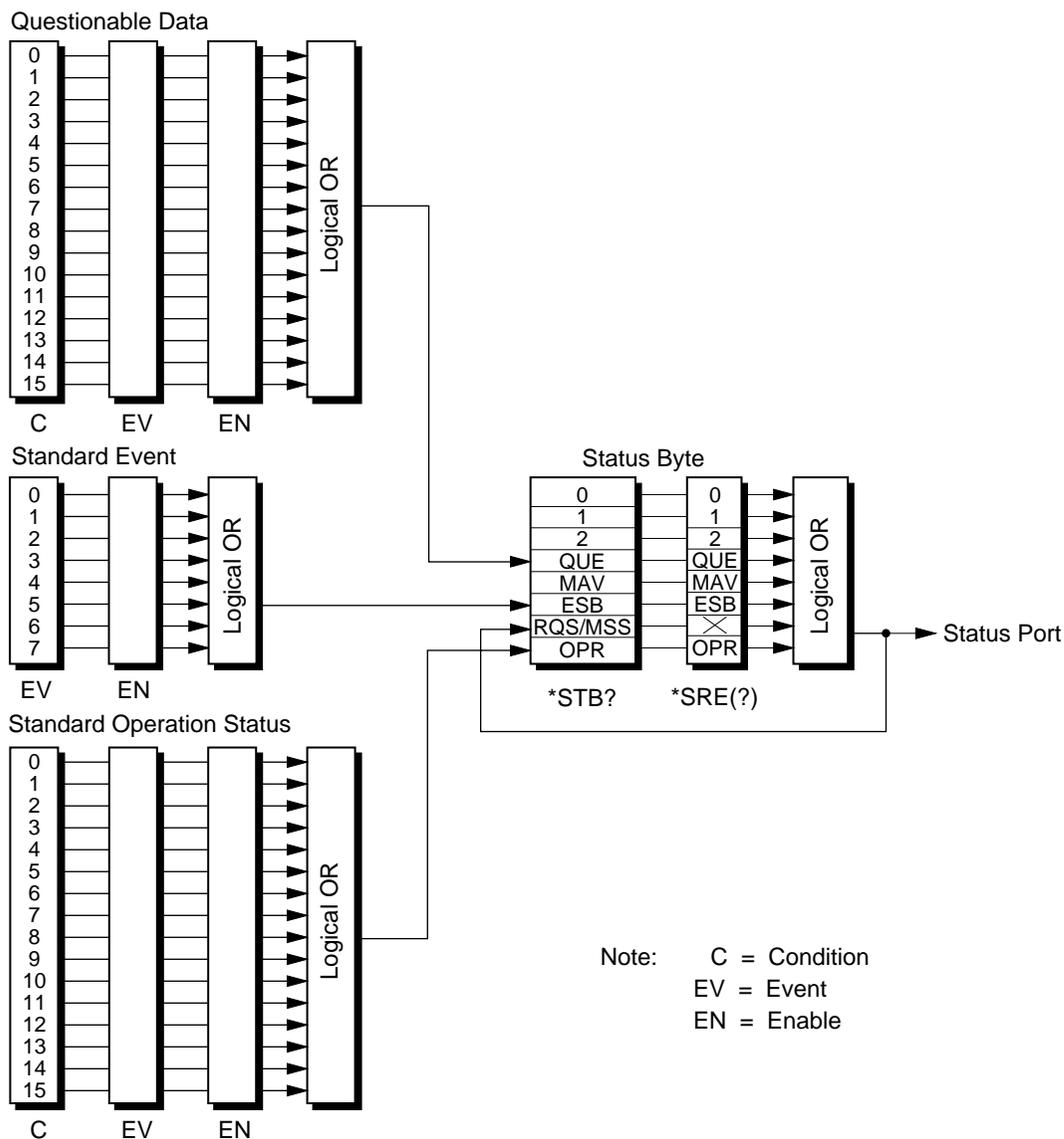

Figure 5-1. Status System Registers
The STATus commands allow you to examine the status of the instrument by monitoring the Operation Status register and the Questionable Data register. Figure 5-1 shows all of the instrument's status registers.
The Operation Status register group consists of a condition (C) register, an event (EV) register, and an enable (EN) register as shown in Figure 5-1. The commands in the STATus:OPERation subsystem control and monitor these registers.
The Questionable Data Register group consists of a condition register, an event register, and an enable register as shown in Figure 5-1. The commands in the STATus:QUEStionable subsystem control and monitor these registers.